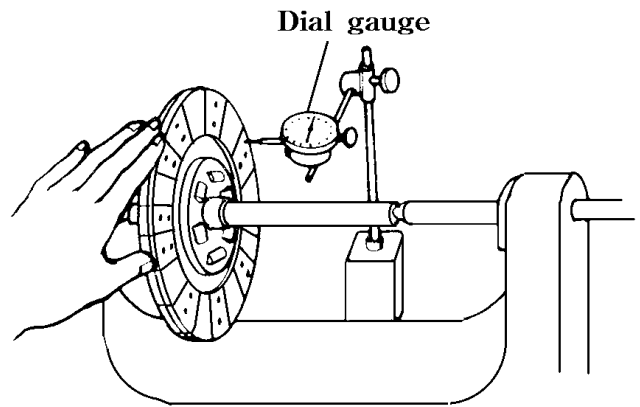

Fig.4-6
- 6) Measure the deviations of the clutch disc.If the measurements are beyond the usable limits, replace the clutch disc assembly.(Fig4-6)